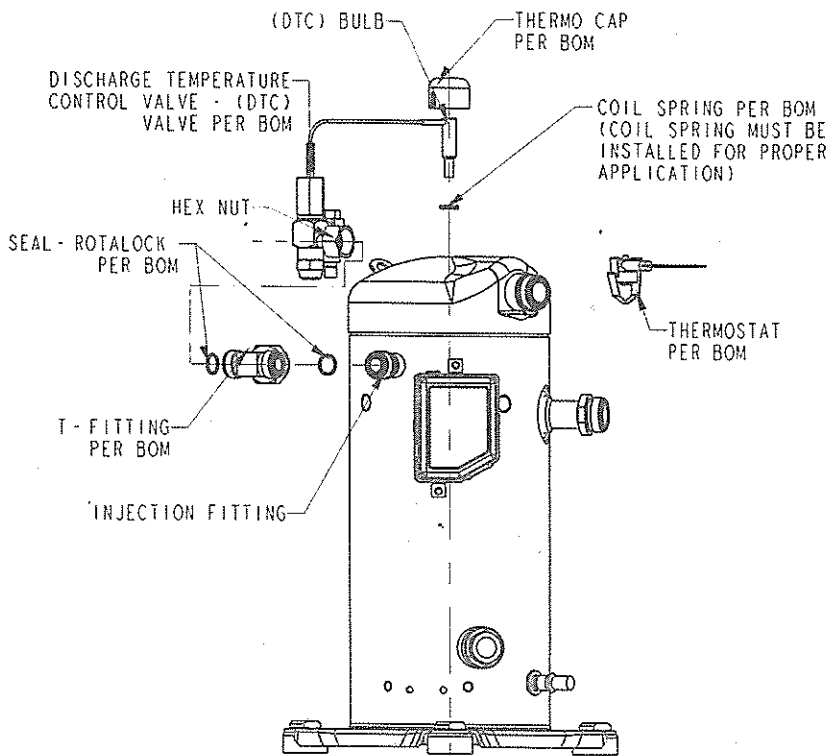
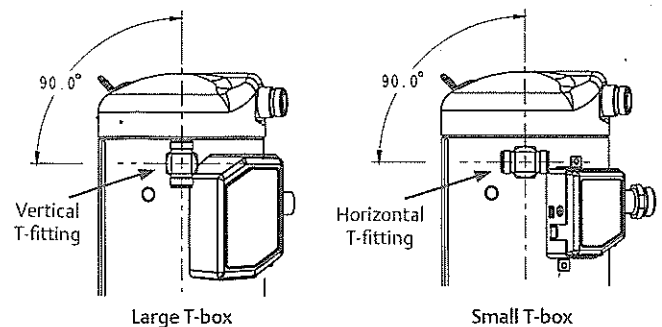

Figure 1. Explosion view
Figure 2. T-fitting installation
Please see all the parts before assembly in fig. 1
1. Assemble *T-fitting* onto *injection fitting*, please see figure 1 and figure 2.
- c. Thread *T-fitting* onto *injection fitting* with the torque of 29 - 34 Nm [250-300 in. lbs.]. (see figure 2).